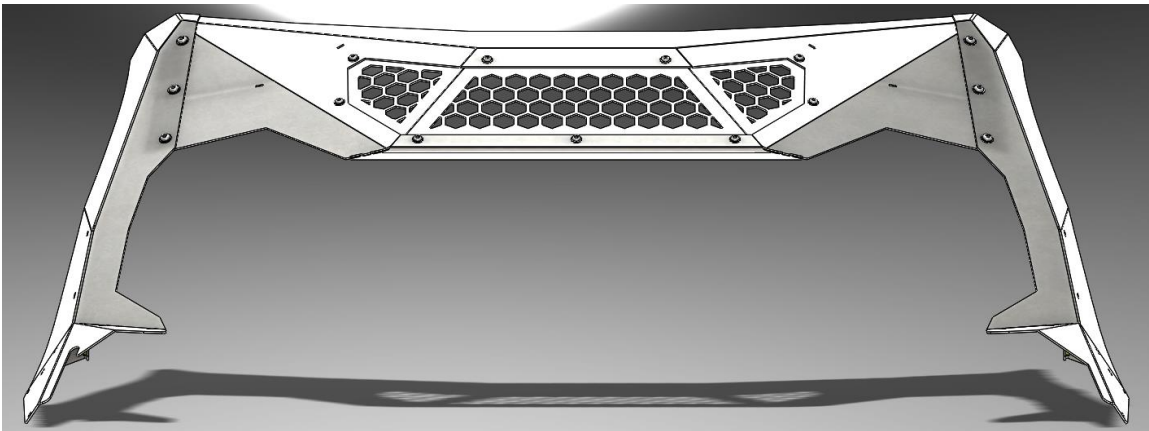

Fig 10
- e. Loosely install both ViCowl arms to the visor using the provided 3/8"-16 stainless steel bolts and rubber bonded washers as shown in **Fig 10**.